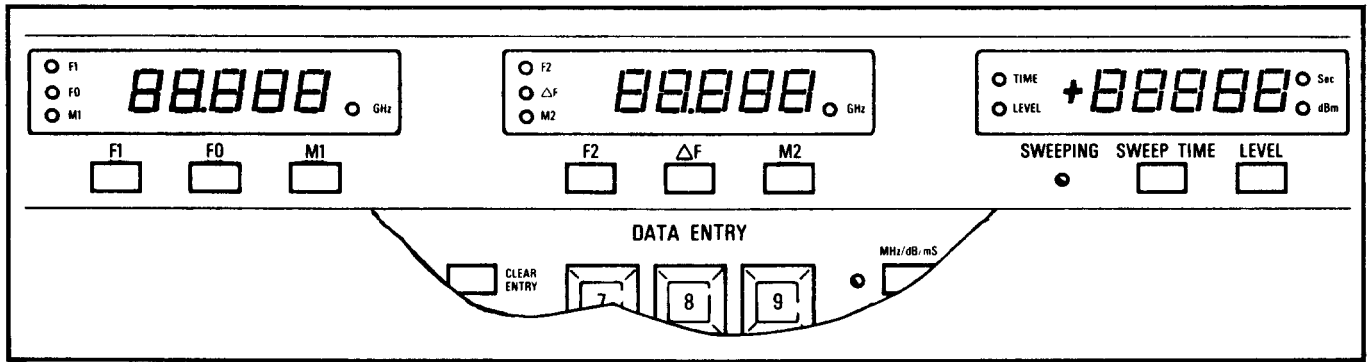

Figure 3-4. F1, F0, M1, F2,  $\Delta F$ , M2, SWEEP TIME and LEVEL Pushbuttons and SWEEPING Indicator
a. F1, F0, M1, F2,  $\Delta F$ , M2, SWEEP TIME, and LEVEL Pushbuttons and SWEEPING Indicator (Figure 3-4).